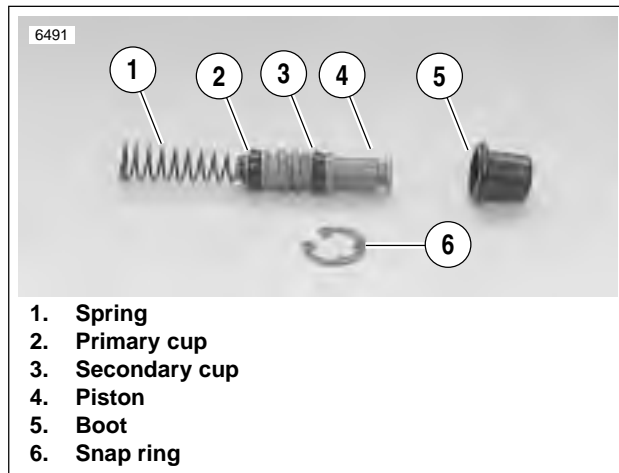

Figure 2-33. Piston Assembly
1. See Figure 2-33. Check piston assembly components.
- a. Small end of spring (1) sits behind primary cup (2). Large side of primary cup faces spring.
- b. Secondary cup (3) sits within ridge at middle of piston (4).